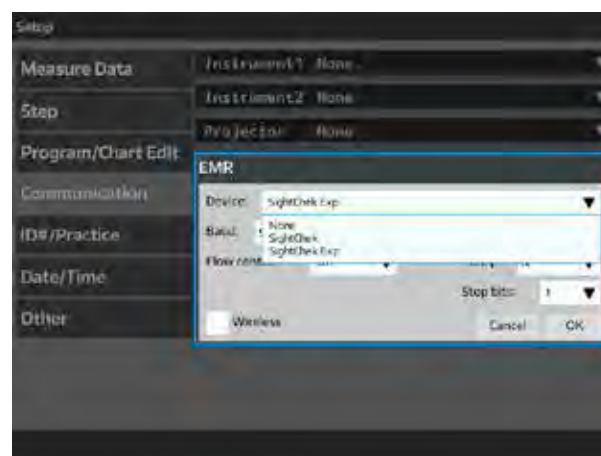

Figure IS-37 Settings Menu
2. Select the device protocol that is being connected to the SightChek from the drop down menu. Refer to Figure IS-37.